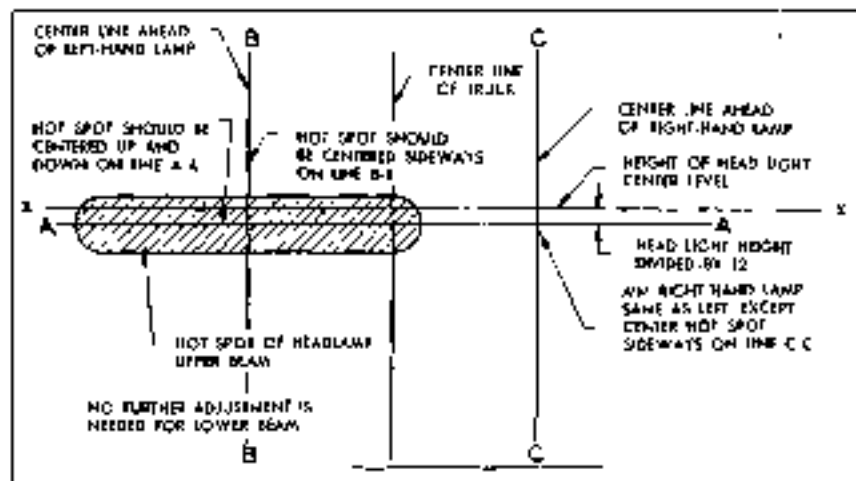

Figure 98.1 Head light adjustment.
### c. (Added) AIMING ADJUSTMENT PROCEDURE (fig. 98.1).
- (1) Place unloaded truck on a smooth horizontal surface so that headlights are 25 feet away from a vertical wall or other vertical surface. The center line of the truck must be at right angles to the vertical surface.
- (2) Measure the height of the headlight center from the floor, and mark a horizontal line at this height on the vertical surface (line X—X, fig. 98.1).
- (3) Mark line A—A, below X—X, at one-twelfth the distance between line X—X and the floor.
- (4) Draw vertical lines B—B and C—C directly in front of each headlight.
- (5) Turn on headlights at main light switch and select high beam with dimmer switch. It is not necessary to make adjustment on low beam.
- (6) Loosen headlight mounting bolt nut on each headlight. Cover one headlight and aim the other so that the center of the zone of greatest intensity (hot spot) is centered at the intersection of lines A—A and B—B or A—A and C—C, depending on which headlight is being aimed. Tighten the headlight mounting bolt nut securely, making sure adjustment is not disturbed. Aim the other headlight in the same manner.
- (7) After each headlight is aimed separately, check both headlights simultaneously for conformity to line A—A.